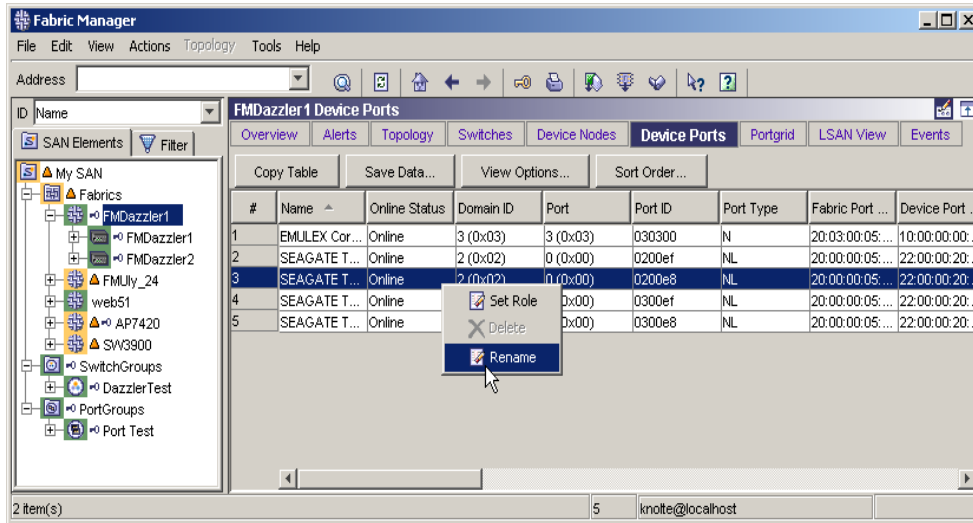

Figure 87 Renaming a device port
The selected view opens (see Figure 87). In this figure, it is the Device Ports view.
2. Select a row within the Device Ports table and then right-click to rename the selected device port (see Figure 87).